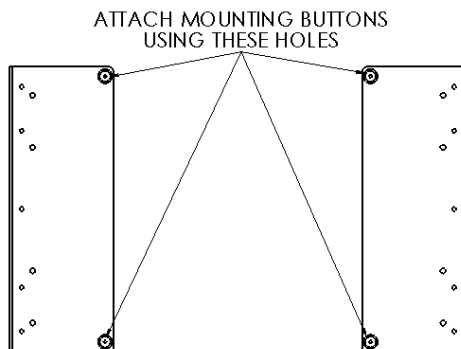

Figure 2
1. Using a 10-24 button head cap screw inserted from back side of bracket, secure mounting button, with chamfered hole of mounting button (larger surface) facing bracket, to bracket (four places) (see Figure 2 and Figure 3). Make sure bends of interface bracket face away from buttons.